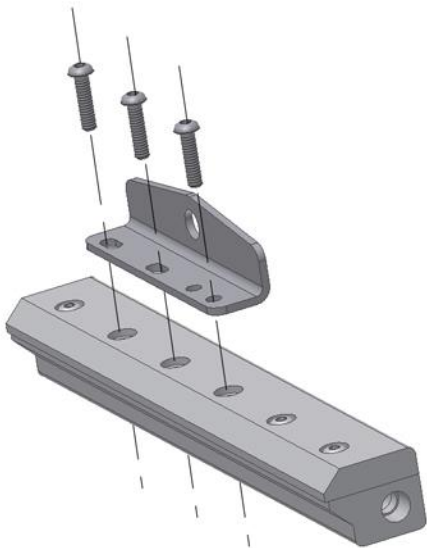
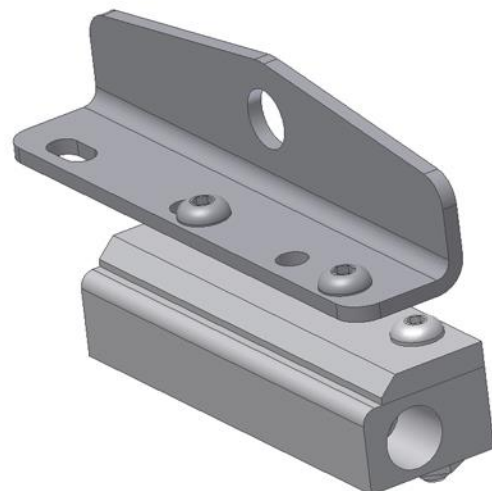

Figure 1 12" (305mm) Alum. Super Air Knife shown
Figure 2 3" (76mm) St. Steel Standard Air Knife shown
Determine the best mounting position for the air knife and remove (3) adjacent screws as shown in Figure 1. While it is recommended to use the screws nearest the center of the air knife, it is not required. Place the bracket flat on the knife and align the holes (see Figure 1). For 3" (76mm) air knives, it may be necessary to use only (2) screws and allow the bracket to overhang the end of the air knife (see Figure 2). Install the new screws and washers (see Table 1 on page 3). Torque to 7.5 ft-lbs. For air knives that are assembled using screws and nuts, re-use the original nuts.